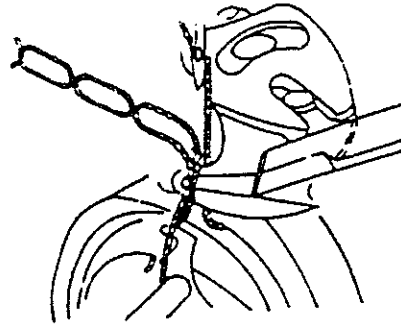

Fig. 16
- Confirm that the moving knife spreads the threads as shown in Fig. 16.